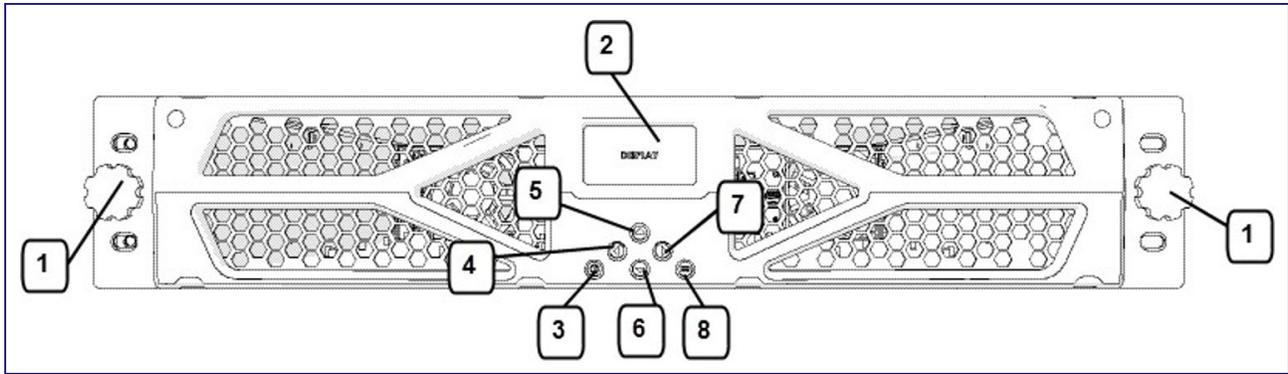

Figure 2.5-1: AC6000 Front Panel Callouts
- Figure 2.5-1: AC6000 Front Panel Callouts